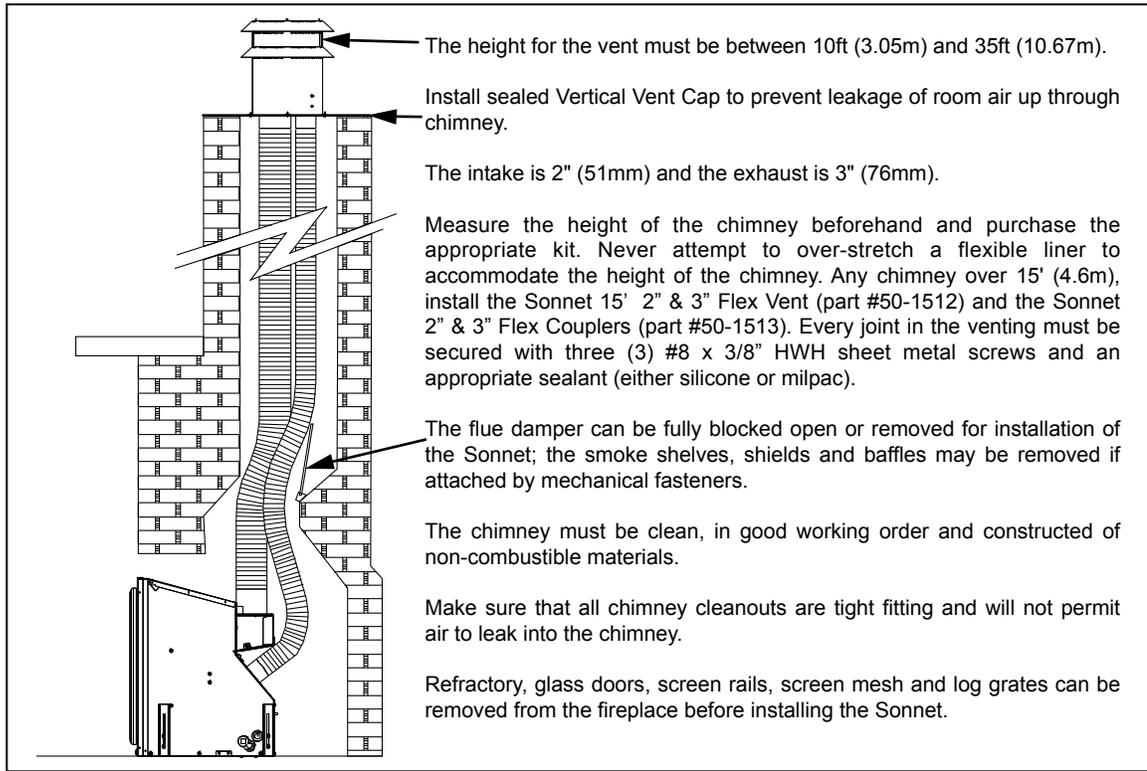

Figure 41: Installation of Sonnet DV .
1. Plan your installation and clearances to combustibles. The Sonnet may be installed and vented into any solid fuel fireplace that has been installed in accordance with the National, Provincial/State and local building codes and has been constructed of non-combustible materials. Also refer to the INITIAL INSTALLATION - PREPARING YOUR SONNET FOR INSTALLATION and CLEARANCES TO COMBUSTIBLES sections. Refer to Figure 41 throughout installation.